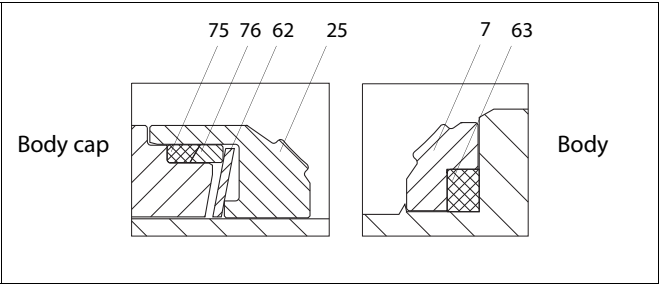

Fig. 20 H seat
- ❑ Place the back seal (63) into the seat (7), see Fig. 20, and then both parts all the way into the body counterbore.
- ❑ Place the ball on the locked seat so that the slot faces the shaft entrance opening. Push the shaft (5) into the valve from outside. Make sure that the end of the shaft fits into the ball slot.
- ❑ Assemble the seat (25), spring (62), back seal (75) and back-up ring (76), see Fig. 20, and place the assembly in the body cap (2).